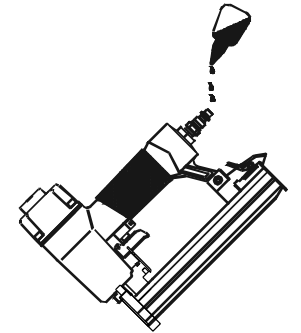

Figure 2
2. Place two (2) drops of air-tool oil into the air plug at the rear of the nailer. If you are using an automatic in-line oiler, check and add oil if necessary.
4. Connect the tool to the air supply (Figure 2).